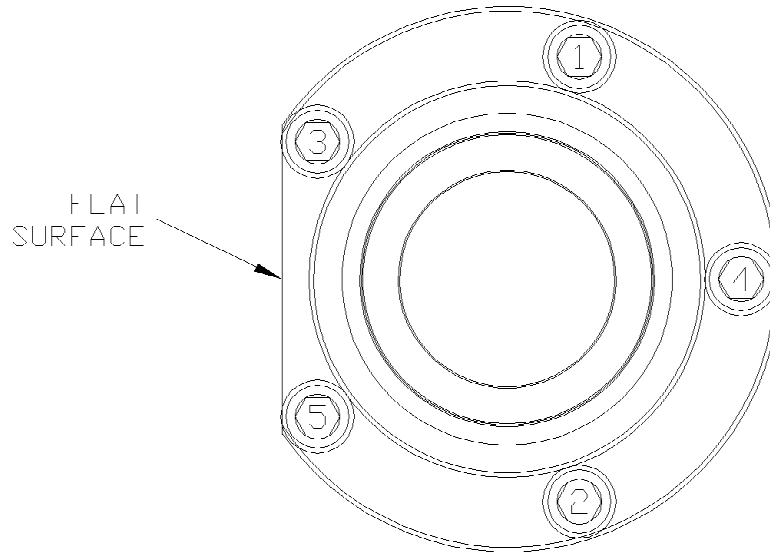

figure A-12
19. After both bearing caps have been installed, torque all bearing cap bolts to 30 ft-lb. in the sequence shown in figure A-12.